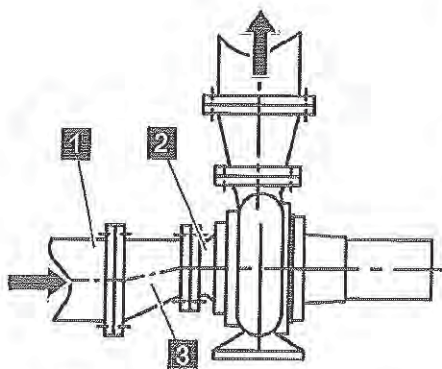
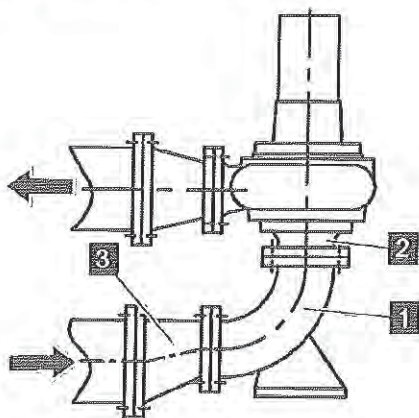
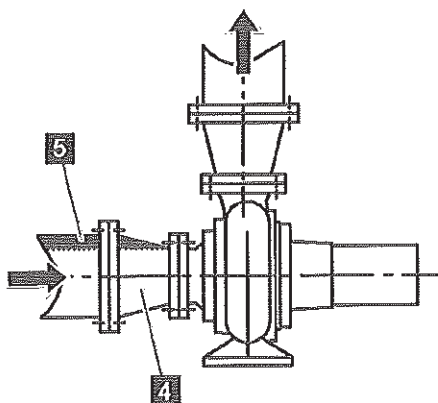
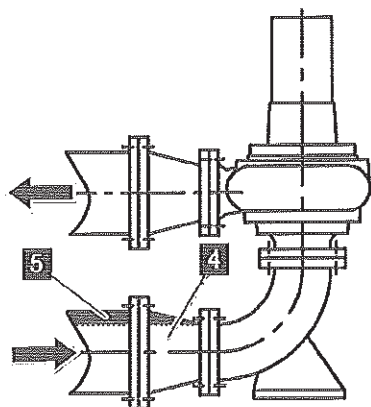

Fig. 17: Horizontal pump installation
Fig. 18: Vertical pump installation
Fig. 19: Air pocket when installing pump horizontally
Fig. 20: Air pocket when installing pump vertically
- The suction line (1) must point towards the suction inlet (2) of the pump (Fig. 17) or upward (Fig. 18).
- Use only eccentric reducers (Fig. 17/3 and Fig. 18/3), whose flat part must be on top. Centric reducers (Fig. 19/4 and Fig. 20/4) result in the air pockets (Fig. 19/5 and Fig. 20/5).